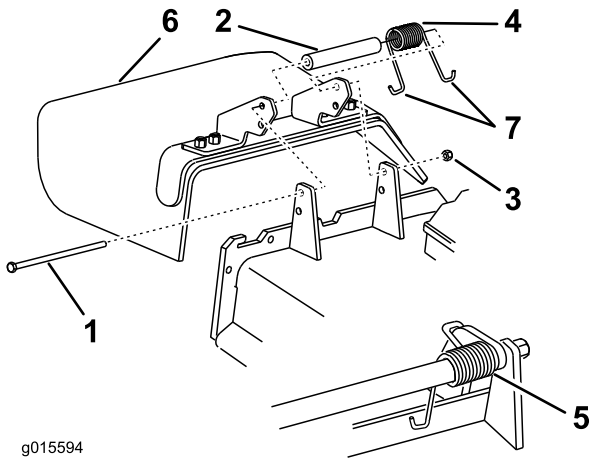

Figure 101
1. Remove the locknut, the bolt, the spring, and the spacer holding the deflector to the pivot brackets (Figure 101).
2. Remove the damaged or worn grass deflector (Figure 101).
Note: Make sure one J-end of the spring is installed behind the deck edge before installing the bolt as shown in Figure 101.
6. Place one J-hook end of the spring around the grass deflector (Figure 101).